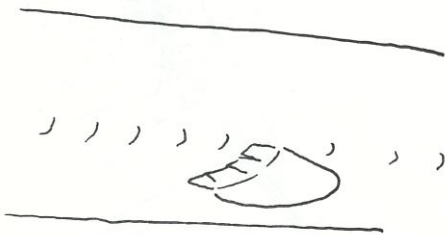

FIG. 11
11. Velcro the vortilons to the leading edge with the flange angled towards the hangage.(fig.11)